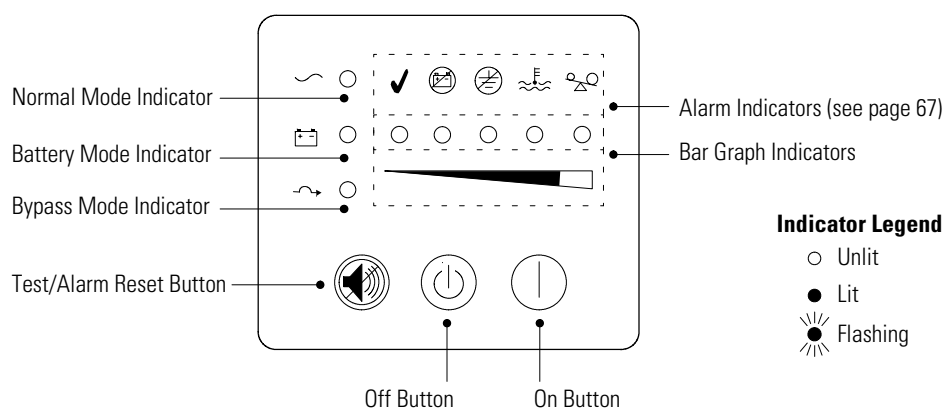

Figure 27. UPS Front Panel
11. Press the On | button (see Figure 27 on page 42). The $\sim$ indicator stops flashing and the bar graph indicators display the percentage of load being applied to the UPS.
After the UPS is connected to utility power, it conducts a self-test and enters Standby mode. To turn on the UPS, press the On | button on the front panel (shown in Figure 27). The $\sim$ indicator stops flashing and the bar graph indicators display the percentage of load being applied to the UPS.
Powerware 9125's front panel indicates the UPS status through the UPS indicators. Figure 27 shows the UPS front panel indicators and controls.